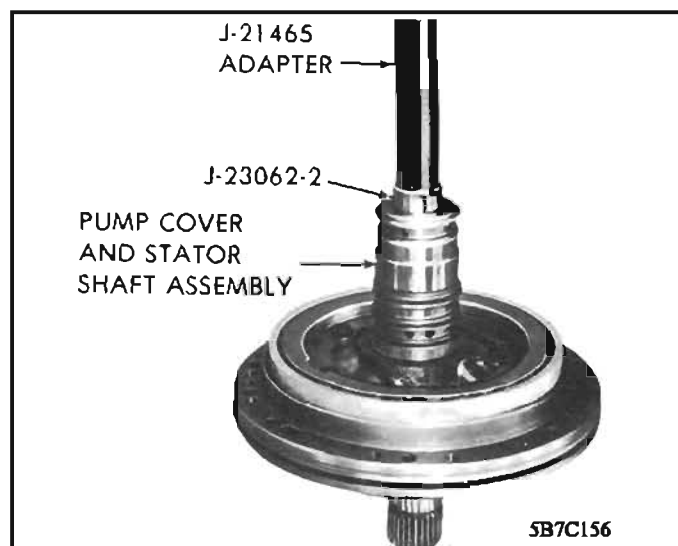

Figure 133 Rear Stator Shaft Bushing Installation
1. Using Tool J-23062-2, press upper rear stator shaft bushing to 1-11/32 inch below top surface of oil pump delivery sleeve. *See Figure 133.*